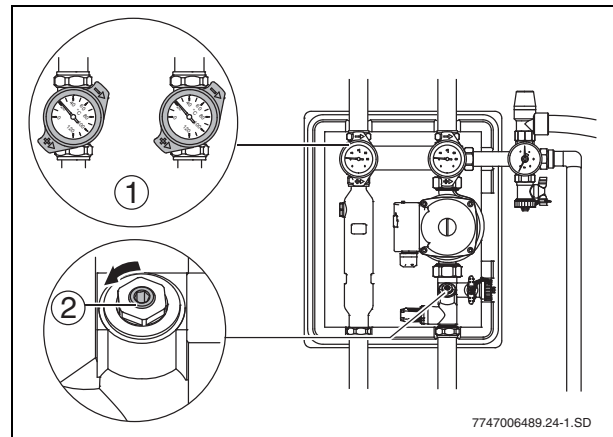

Fig. 32 Opened shut-off fittings
- Using a pump, fill the solar thermal system with fluid via one of the fill & drain valves (1) in the solar pump station.
- Set the ball valves (→ Fig. 32, item 1) on the thermometers to 45° and open the flow regulator (→ Fig. 32, item 2) and other shut-off fittings.